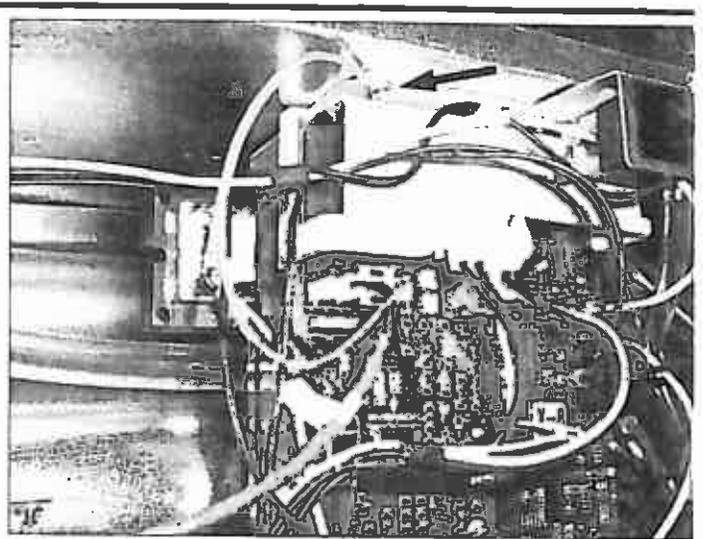

FIGURE 3 UPFLOW
7. Locate the end of the shielded cable harness labeled "CONTROL END" and connect the 4 pin connector to the control. Secure the Green ground lead found on the 4 pin connector to the sheet metal control mounting platform using one of the existing mounting screws. See Figure 3.
I put one doughnut ferrite on the shielded control cable at the controller board. See picture. See Fig 3.